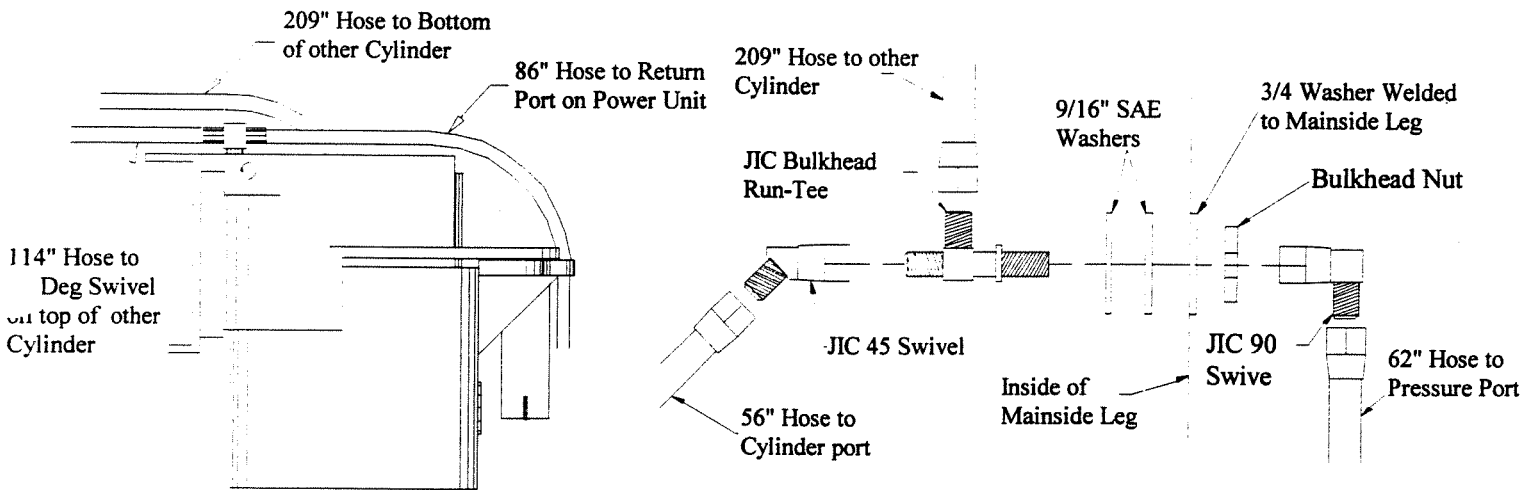

FIGURE 12
25. On the back of the mainside leg there are two holes near the top. On the bottom hole, attach the hydraulic fittings as shown in Figure 12. Two 9/16" SAE washers are used as spacers in the bulkhead fitting installation.
26. Figure 12 shows the hose installation. The 114" hose runs between the fittings on the cylinder tops and the hose sits on the overhead beam. Make sure to run the hoses through hose guides on top of the overhead beam. The 92" hose runs from the top of the mainside cylinder, through the slot on the back of the cylinder mount weldment through the hose guides on the leg back, to the return port (the return port is on the left and the pressure port is on the right) on the power unit. Install the 62" hose between the 90-deg swivel fitting and the pressure port on the power unit. Run the hose through the hose guides on the leg back. Install the 56" hose between the 45-deg swivel and the mainside cylinder port. Do not tighten the cylinder end of the hose fitting. Install the 209" hose between the top of the bulkhead fitting and the offside cylinder port. Do not tighten the cylinder end of the